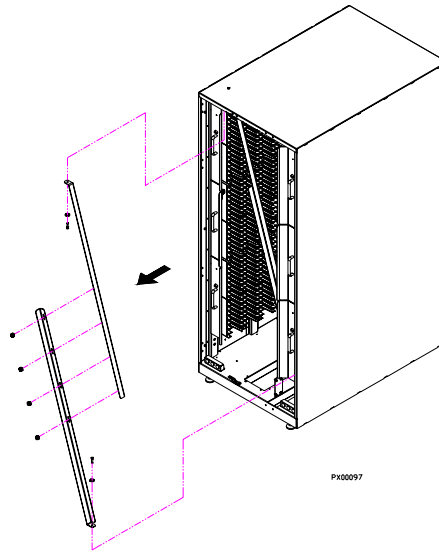

Figure 16: Remove the internal library frame restraint
8. Remove the internal library frame restraint from the front of the library, but completing these steps (see Figure 16).